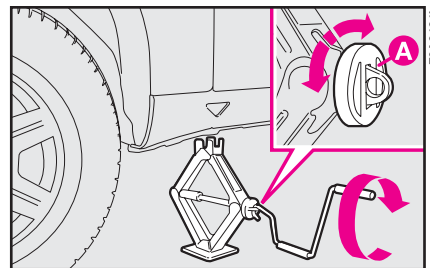
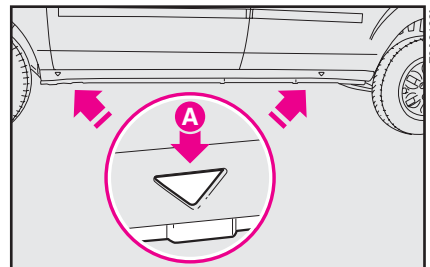

fig. 7
fig. 8
10) Operate the handle **A-fig. 7** to partially open the jack. Position the jack under the vehicle at the reference points **A-fig. 8** near the wheel to be replaced.